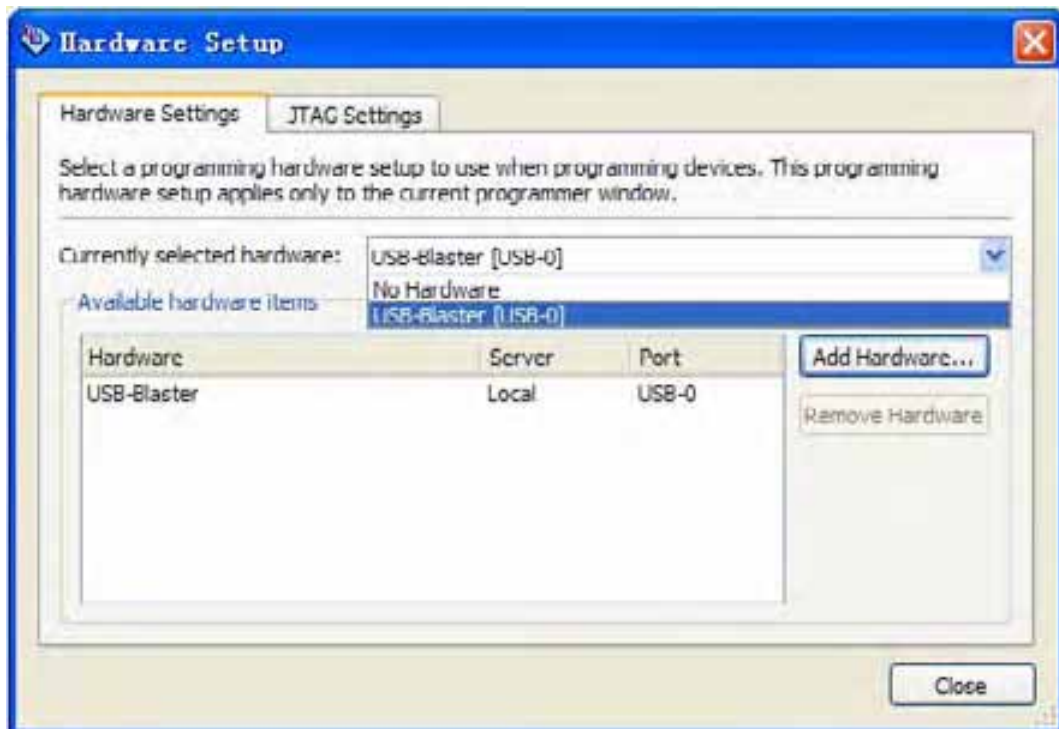

Figure 7-53 Hardware Setup Window
12. Select USB-Blaster from the currently selected hardware drop-down list box, as shown in Figure 7-53.